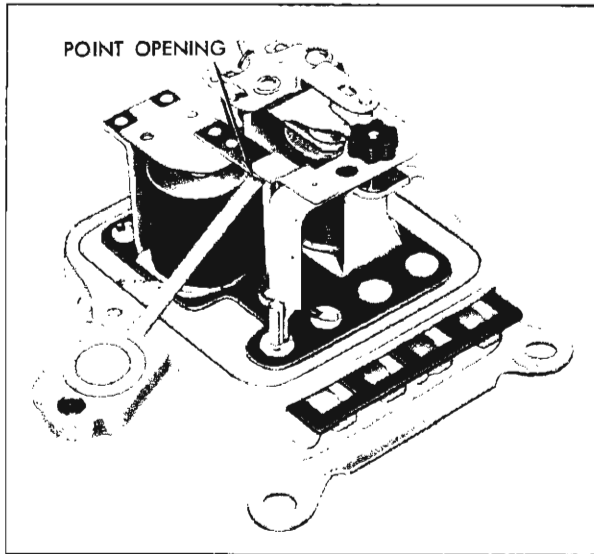

Fig. 38—Checking Field Relay Point Opening
1. **Point Opening:** The point opening is checked as illustrated in Figure 38. If adjustment is necessary, carefully bend the armature stop.